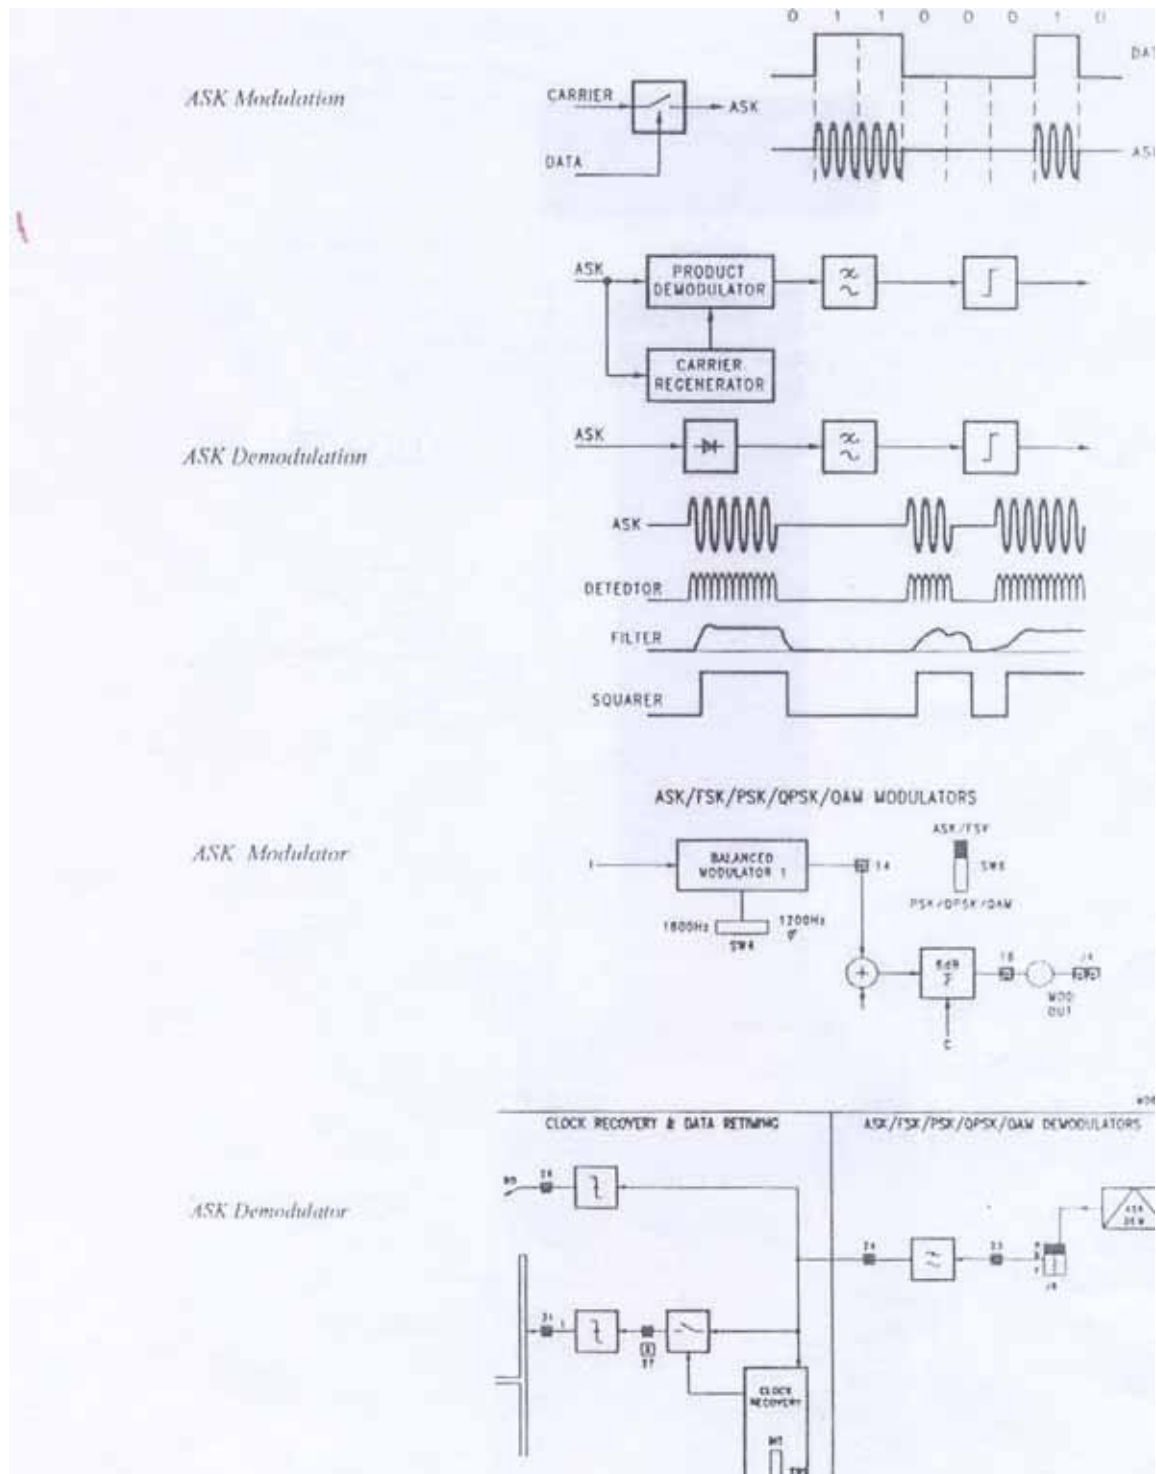

Figure 2
- Connect the oscilloscope to TP6 and TP16 so to display the data signal and ASK signal wave form. See Figure 2.